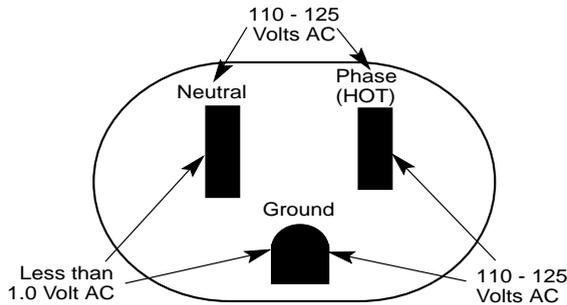

Figure 2-2. Measuring the AC Outlet Voltages
2. Measure the AC outlet voltages. See Figure 2-2 on page 2-11.